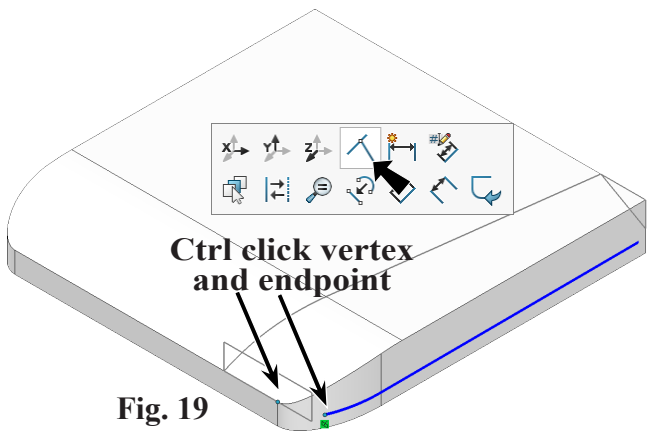

Fig. 19
Step 4. **Ctrl click Spline Point 1 and vertex at corner** to select both, **Fig. 19**. Release Ctrl key and click **Make Coincident**  on the Context toolbar.